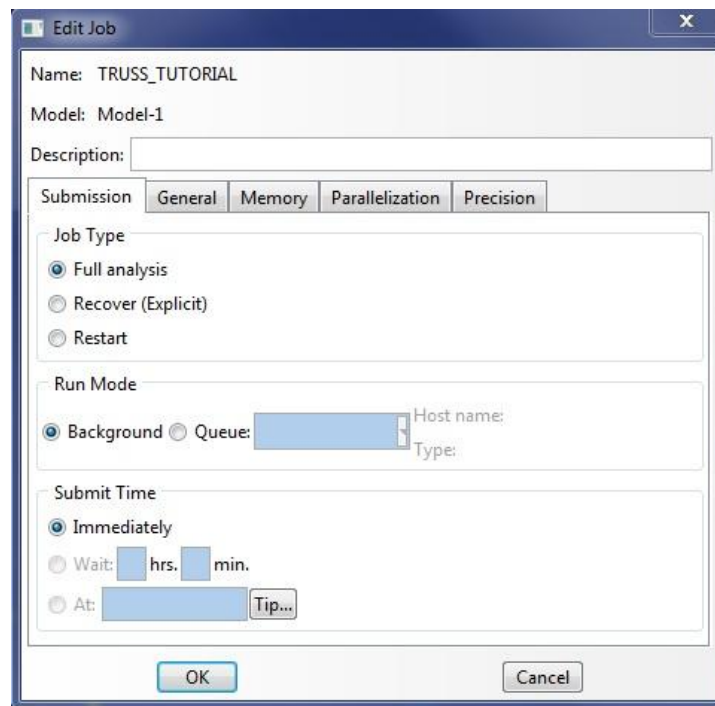

Figure 30. Edit Job Dialog Box
- The **Edit Job** dialog box will immediately appear (Figure 30).